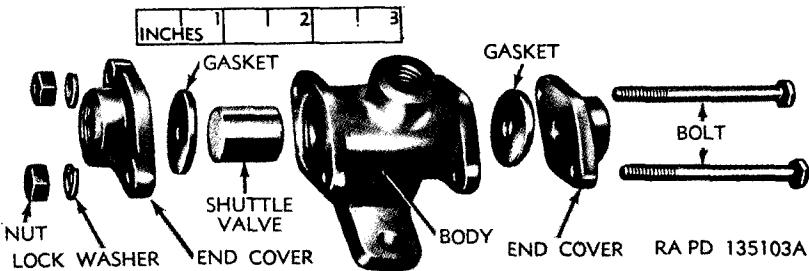

Figure 181. Shuttle type double check valve—exploded view.
a. *Shuttle Type* (fig. 181). Remove the two bolts holding end covers in place. Remove and discard gaskets. Remove shuttle valve.
a. *Shuttle Type* (fig. 181). Place shuttle valve in body. Use new gaskets and position them and end caps on body with the smooth surface of the gasket against the body. Install bolts and secure with lock washers and nuts. Tighten bolts evenly.